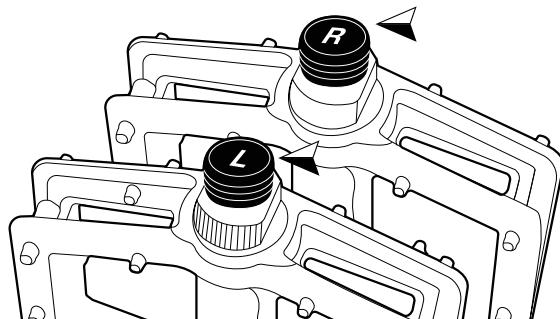

Figure 13. Marked "R" (Right) and "L" (Left)
2. Tighten the right pedal (marked "R" on the pedal, see *Figure 13*) in a clockwise direction on the crank on the drive side.
3. Screw the left pedal (with marked "L" on it and with grooves see Figure 13) counterclockwise onto the left crank.